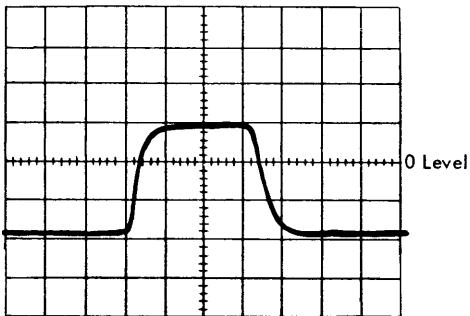

Figure 10.  $\phi$ C (3Zd)  $3.0 \pm .25 \mu s$
6. Adjust 2V8 (3.01.02) for a disk  $\phi C$  pulse length of  $3 \pm .25 \mu s$  at the zero volt level (See Figure 10).